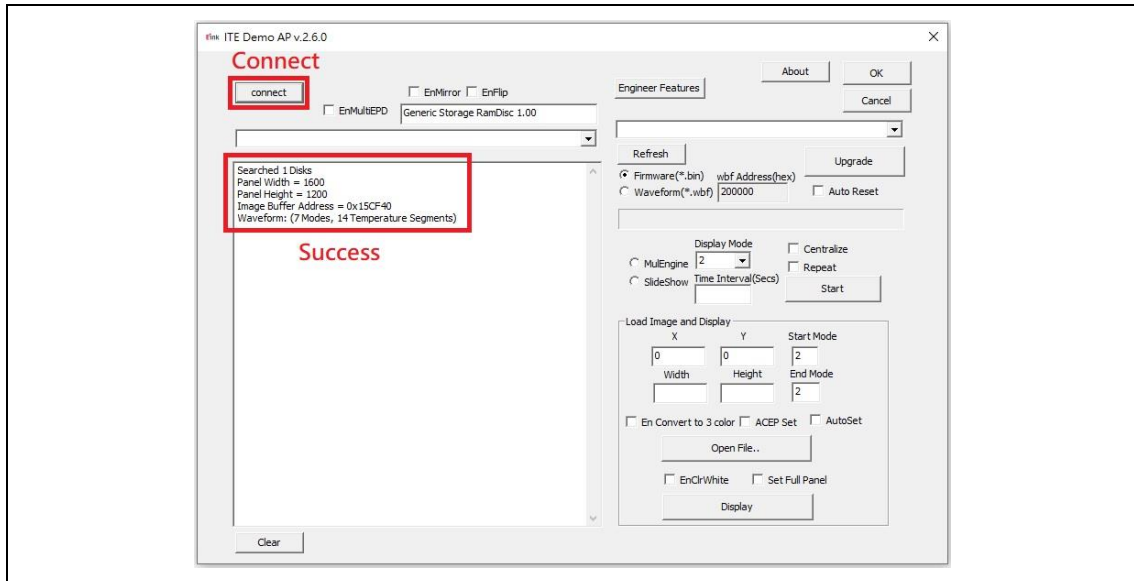

Figure 3-2-a
- Click "Connect" button to make sure the software has connected to physical drive(Figure 3-2-a)